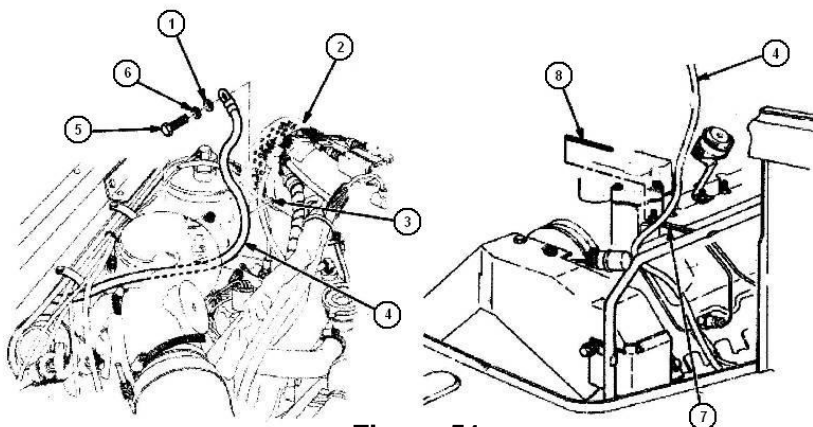

Figure 51
(13) Using **Figure 51**, position Cable 12460498-4 (4) toward back of engine. Attach the cable to the Terminal Power Feed Thru 12340594 (3) in **Figure 44** on page 35 on the battery box inboard side panel.